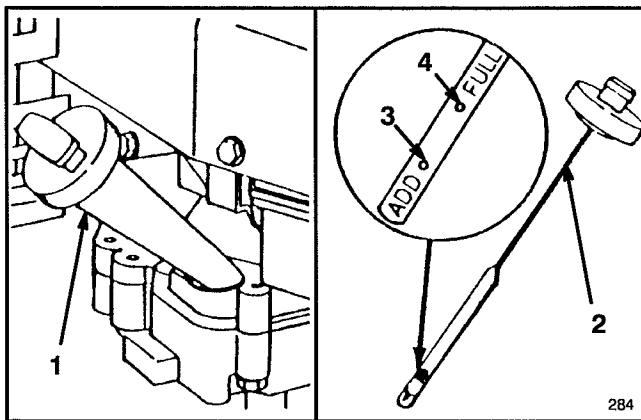

Figure 9
Fill crankcase with SAE 30 oil until oil level reaches FULL mark on dipstick as shown in Figure 9. The maximum crankcase capacity is 25 ounces (0.75 liters) of oil. Use any high quality detergent oil having the American Petroleum Institute (API) "service classification" — SE, SF, SG or SH.
Before each use, ensure oil level is between ADD and FULL marks (Fig. 9). Add oil if level is low.
3. Wipe dipstick and insert it into filler neck. Rotate cap 1/4 turn. Then remove dipstick and check level of oil (Fig. 9). If level is low, add only enough oil to raise level to FULL mark on dipstick. **DO NOT FILL ABOVE**
1. **CHECK OIL LEVEL**—Maintain oil level between ADD and FULL range as shown on dipstick (Fig. 9).